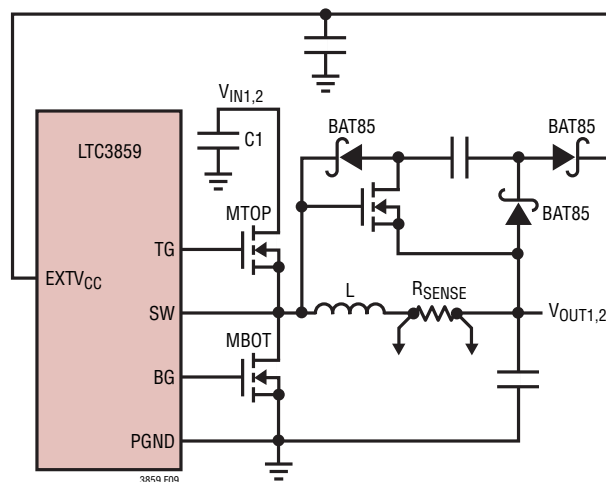

Figure 9. Capacitive Charge Pump for EXTV_{CC}
4. EXTV_{CC} connected to an output-derived boost network off one of the buck regulators. For 3.3V and other low voltage buck regulators, efficiency gains can still be realized by connecting EXTV_{CC} to an output-derived voltage that has been boosted to greater than 4.7V. This can be done with the capacitive charge pump shown in Figure 9. Ensure that EXTV_{CC} < V_{IN}.